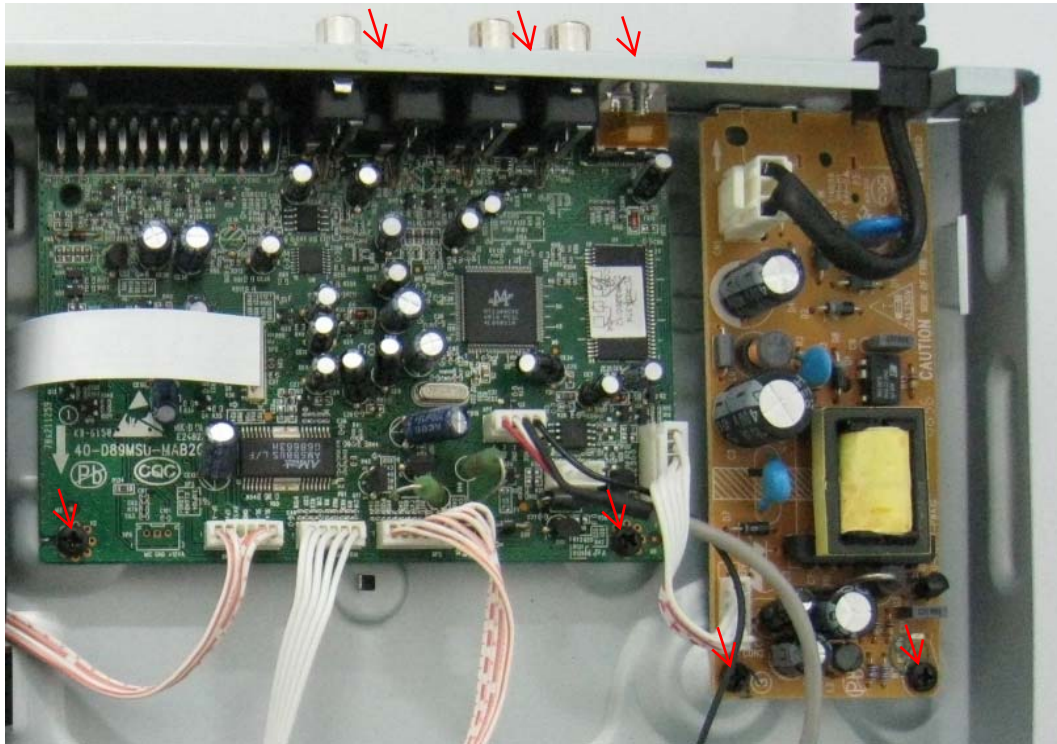

Figure 7
**Step6:** Dismantling Main Board, first disconnect the connector (XP1), and then remove 5 screws. (Figure 7)
**Step7:** Remove the 2 screws on Power Board to dismantle the Power Board. (Figure 7)